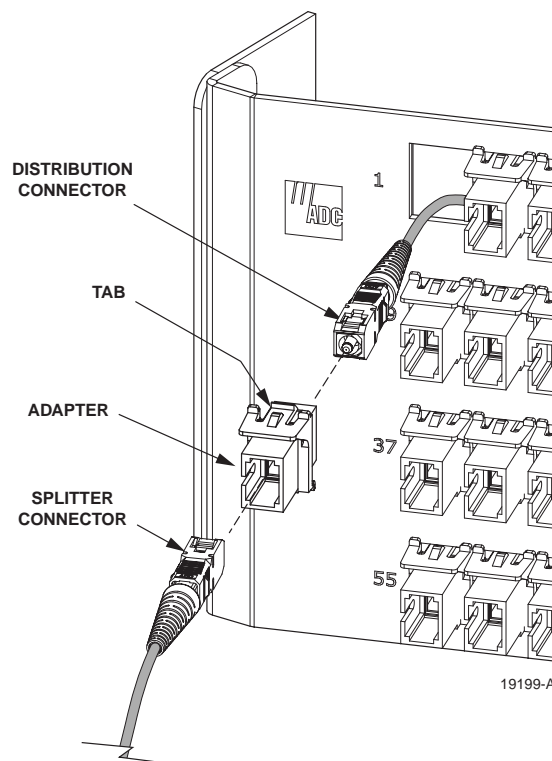

Figure 39. Adapter Removal and Replacement
1. Disconnect the splitter connector from the front side of the adapter as shown in Figure 39.
7. Orient the replacement adapter as shown in Figure 39 and then mate the distribution connector with the rear side of the adapter (see ADCP-90-159).